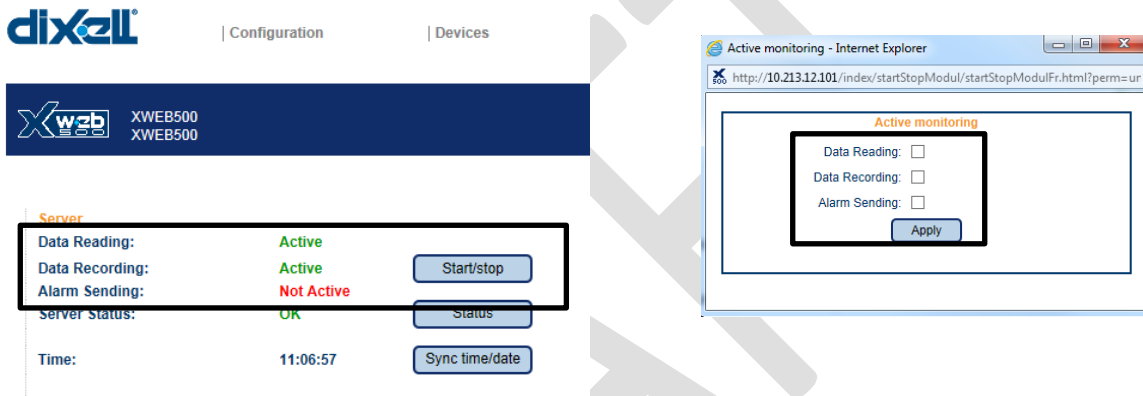

Figure 5: Turning Off All Data Logging
3. Turn off all active monitoring by clicking Start/Stop from the XWEB homepage and deselecting all active monitoring. Data Reading, Date Recording and Alarm Sending should read **Not Active**. To change any configurations, the XWEB cannot be actively monitoring. Refer to Figure 5